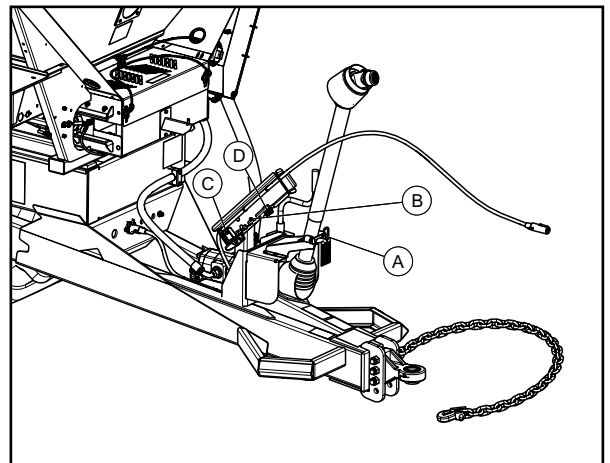

Figure 10
4. Place all power connections in storage positions as shown in Figure 10:
- If implement is equipped with MULTAPPLIER, store auxiliary hose in provision on hose guide (A).
- Place PTO shaft in storage position and secure with pin (B).
- Store light connector in storage bracket located on hose guide (C).
- Plug ISOBUS connector into storage provision to prevent entry of dirt and debris (D).